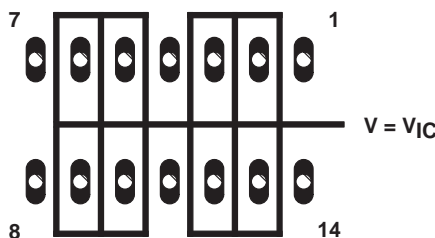
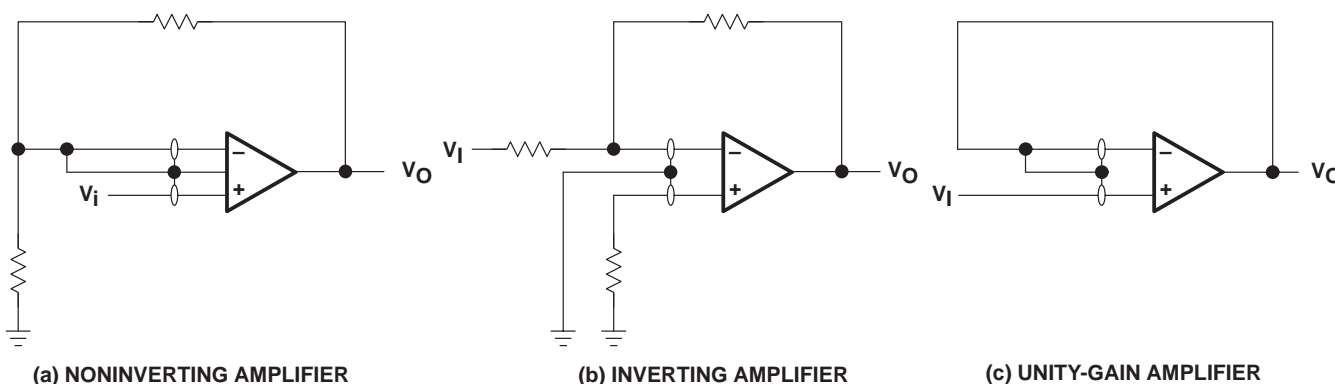

Figure 38. Isolation Metal Around Device Inputs
Figure 42. Guard-Ring Schemes
- Isolate the device from other potential leakage sources. Use a grounded shield around and between the device inputs (see Figure 38). Leakages that would otherwise flow to the inputs are shunted away.
It is good practice to include guard rings around inputs (similar to those of Figure 38 in the Parameter Measurement Information section). These guards should be driven from a low-impedance source at the same voltage level as the common-mode input (see Figure 42).